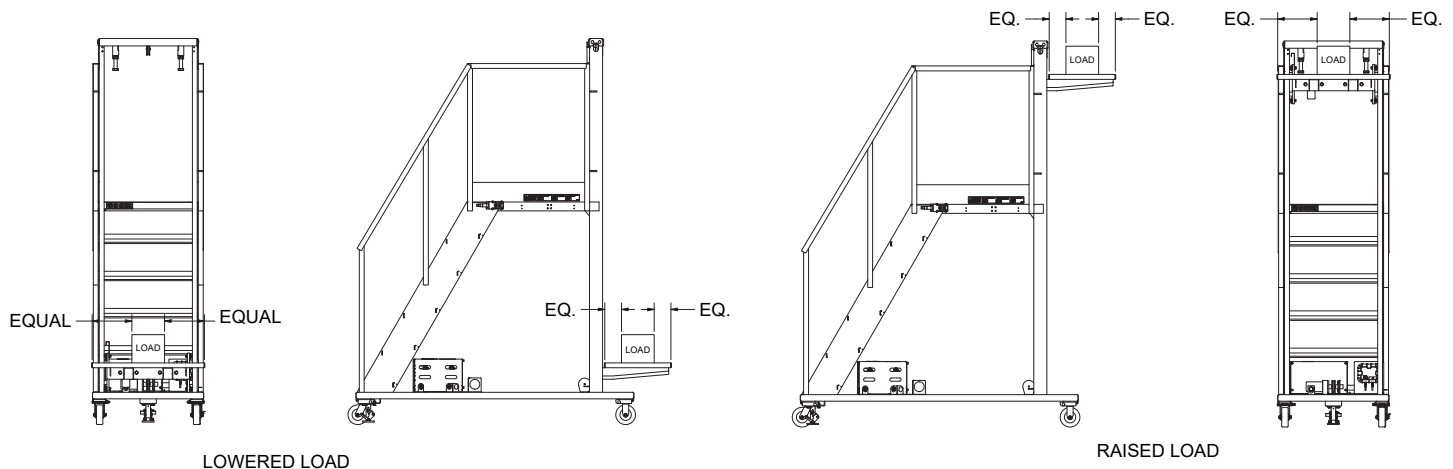

FIGURE 1
3. Center, balance, stabilize, and secure the load. See Figure 1 on B.3. Secure the load when necessary using an appropriately rated tie-down.